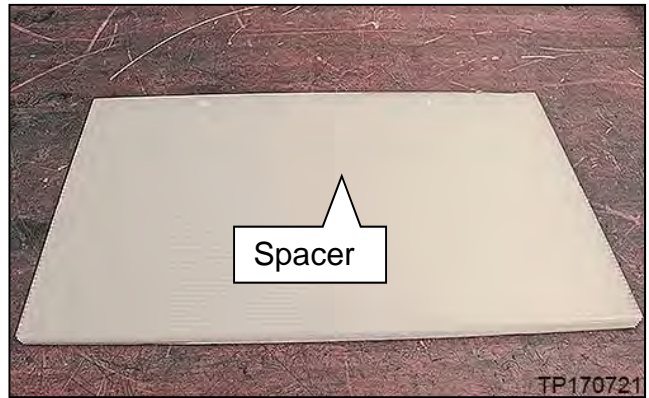

Figure 145
**HINT:** Step 111 is for kits that have a separate spacer (Figure 145). In later kits this spacer will be part of the lower board and step 111 will not be used.
111. Take the spacer (Figure 145) out of the shipping box and place it on the work bench where the sub-assembly will be installed, and then place the lower board on top of the spacer as shown in Figure 146.